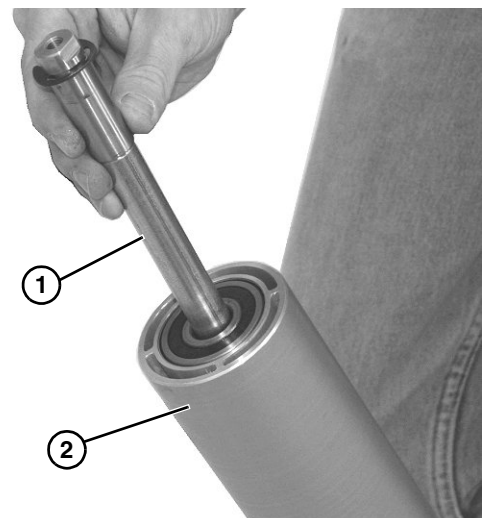

Figure 44
6. Slide the shaft assembly (**Figure 44, item 1**) out of the pulley (**Figure 44, item 2**).